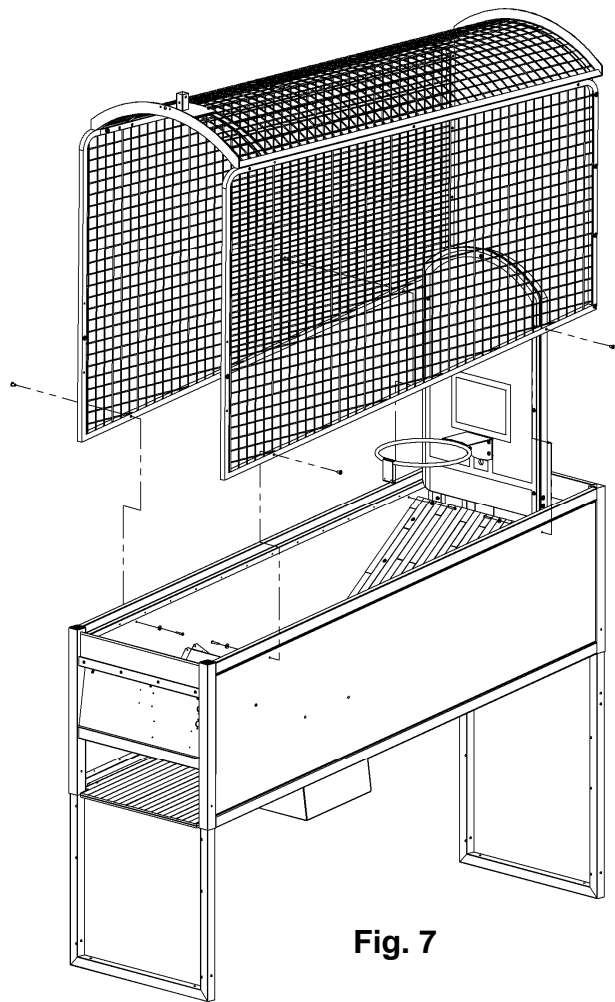

Fig. 7
Three people are recommended to lift the cage assembly. When the Cage assembly is roughly in place, attach the Cage with the included hardware. Insert the (4) 1/4-20 X 1- 3/4" black Button Head Cap Screw and 1/4" flat black washers from the inside of the cabinet. Using the (4) 1/4-20 joint connectors, securely attach the cage to the side panels of the cabinet. Leave the hardware loose until the Backboard is Attached. (See Fig. 7)